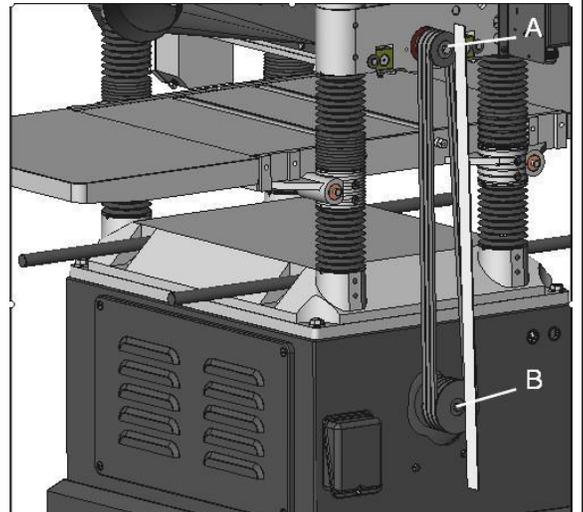

Fig. 6
To verify that motor pulley (B) is in line with the shaft pulley of (A), using the edge of a straight scale check to see if they are on-line with each other.(Fig. 6).